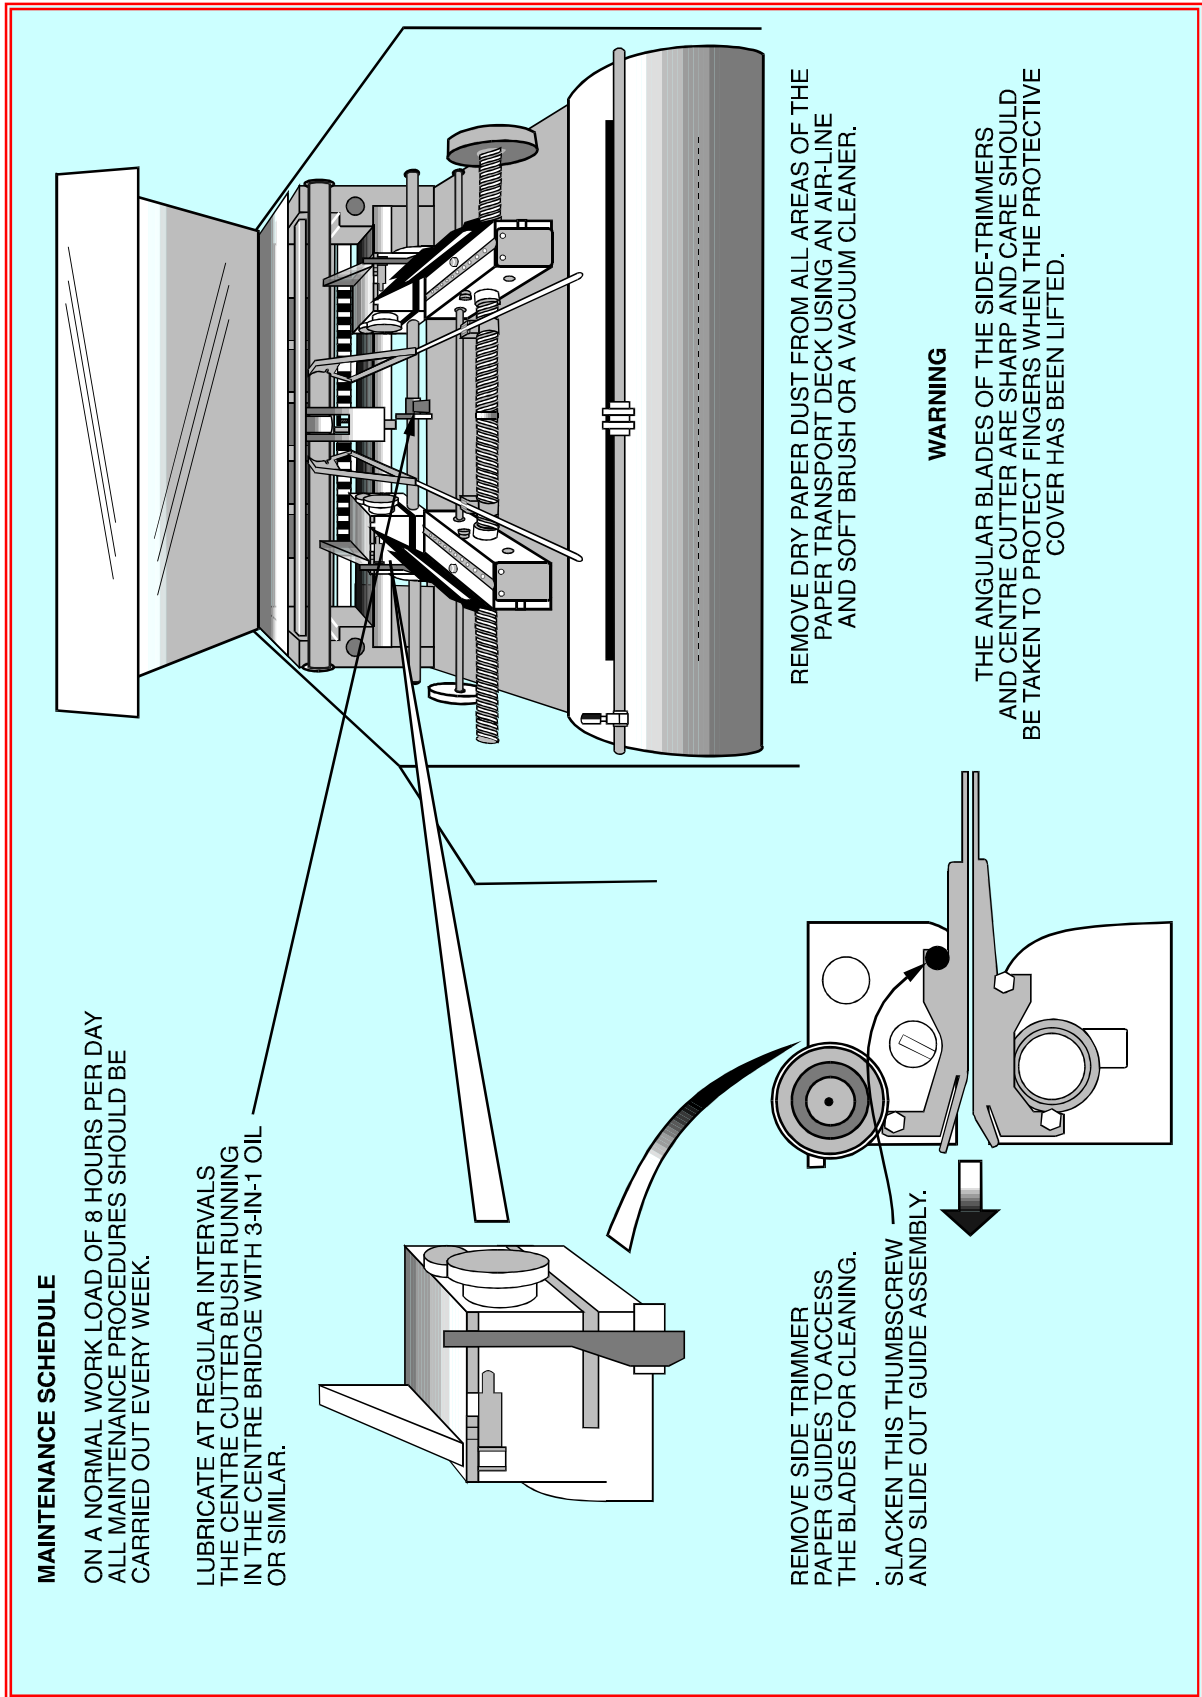

Fig4.1 Cleaning & Lubrication Areas
- Remove each side trimmer guide by slackening the thumbscrew on the side of the trimmer block, as shown in Fig 4.1. This gives access to the trimmer blades. Clean the side trimmer blades using an airline and a soft-hair hand brush.
- Lightly oil the centre cutter bush which runs in the centre bridge (see Fig 4.1).